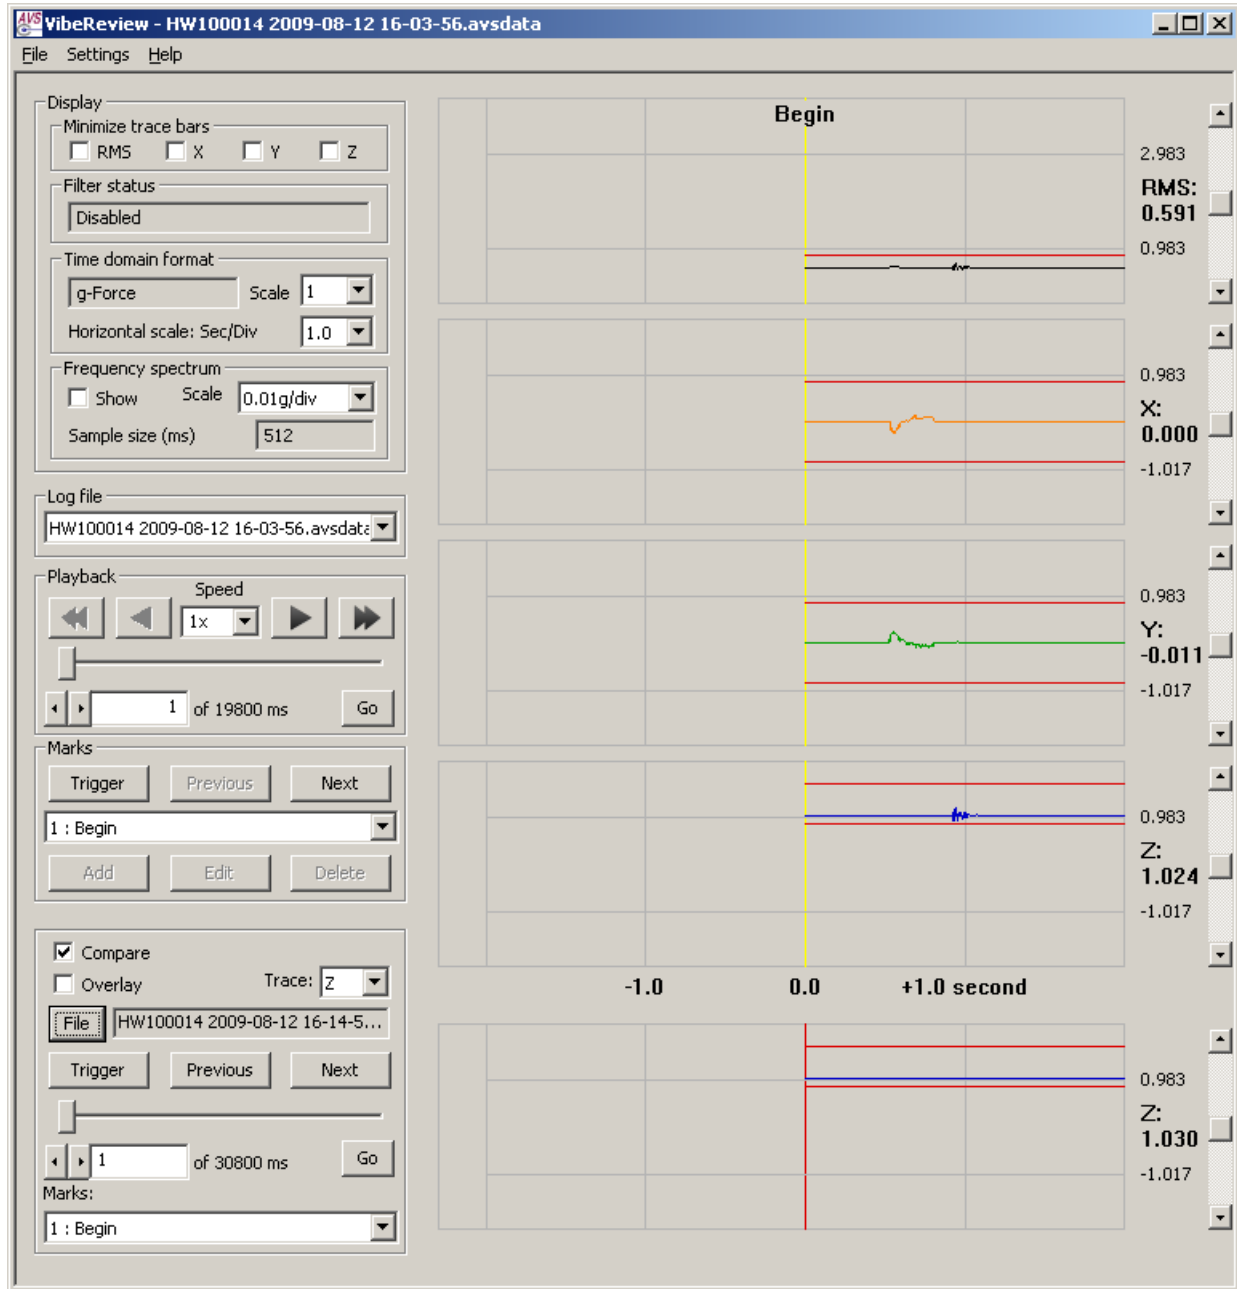

Figure 4.11: Comparing Two Log Files
5. Choose the second log file you want to compare, and click **Open**. VibeReview opens the log file and displays one of the traces at the bottom of the window, below the traces for the first file. By default, VibeReview displays all traces from the first file but only one trace at a time from the second file. See Figure 4.11 on page 4.15.